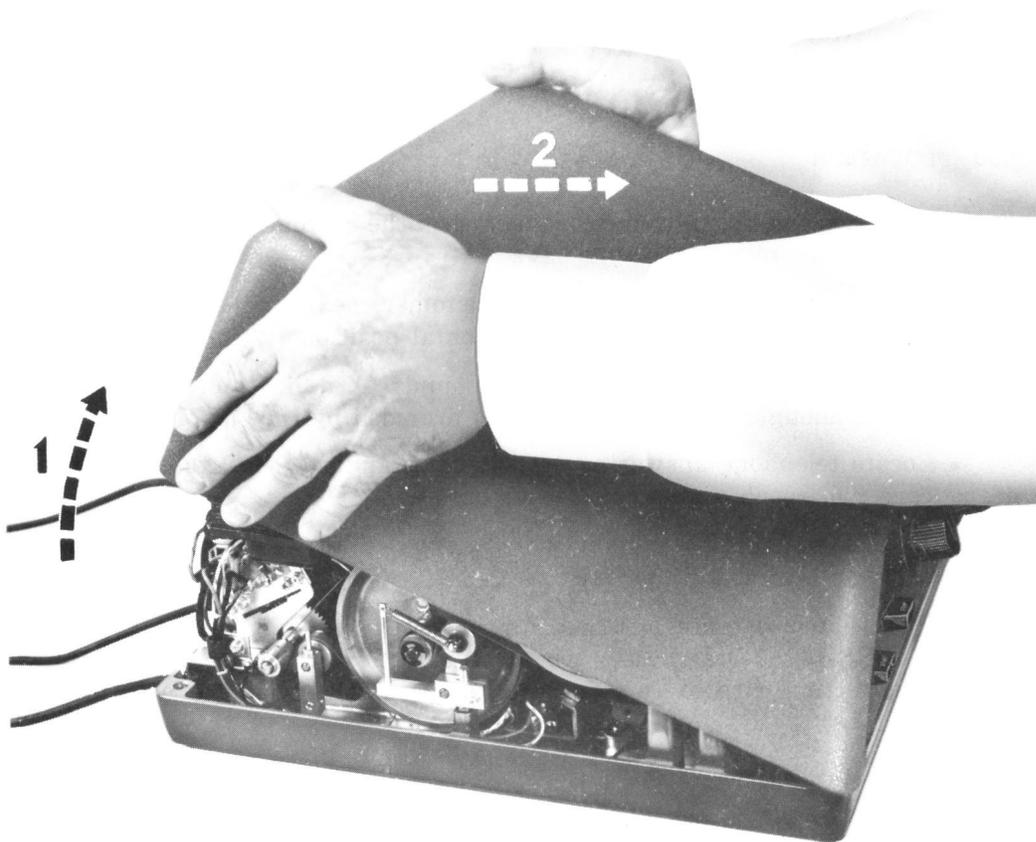

Fig. 1 — 1-Type Telephone Answering Set Showing Position of Hands and Direction of Movement When Removing Cover
- Raise the rear of the cover until its rear-bottom edge clears the apparatus inside. Then slide the cover forward off the front panel (see Fig. 1).